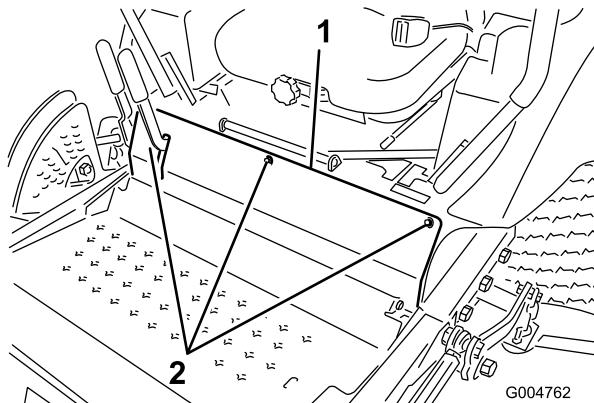

Figure 64
- Remove the bolts securing the front panel and remove the panel (Figure 64).